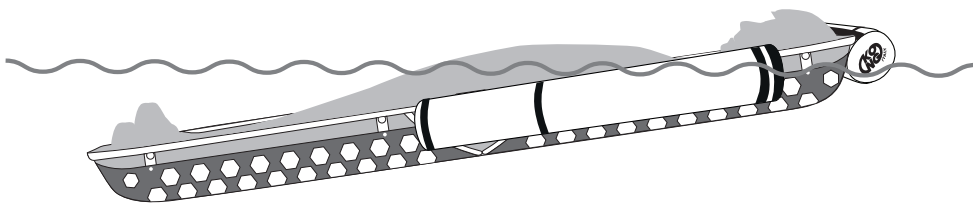

Fig.4
- **River transportation (fig. 4)**